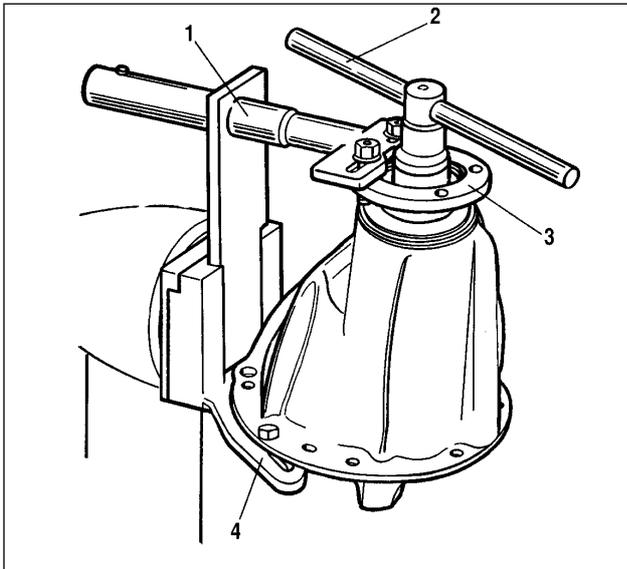

Fig. 3-66. Undoing the drive gear nut:
- turn the reduction gear casing with the filler neck upward (fig. 3-66), hold driving gear flange 3 with tool 1, and undo the flange fastening nut with wrench 2;